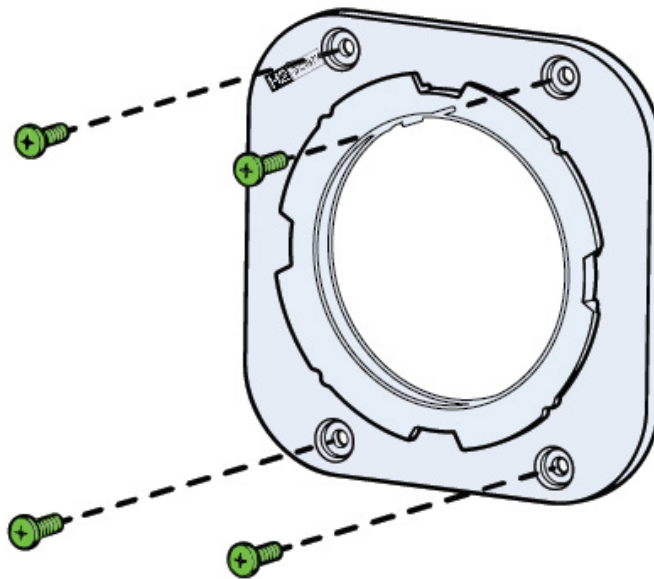

Figure 5: Secure Wall Mount to Surface
1. Mount the wall mount onto the mounting surface using Phillips #2 screwdriver (see Figure 5).